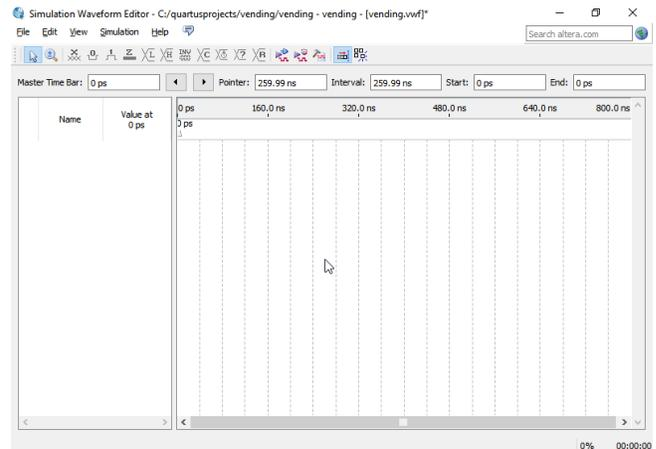

Figure 28. Blank waveform.
- Simulation waveform editor window will appear such shown in Figure 28.